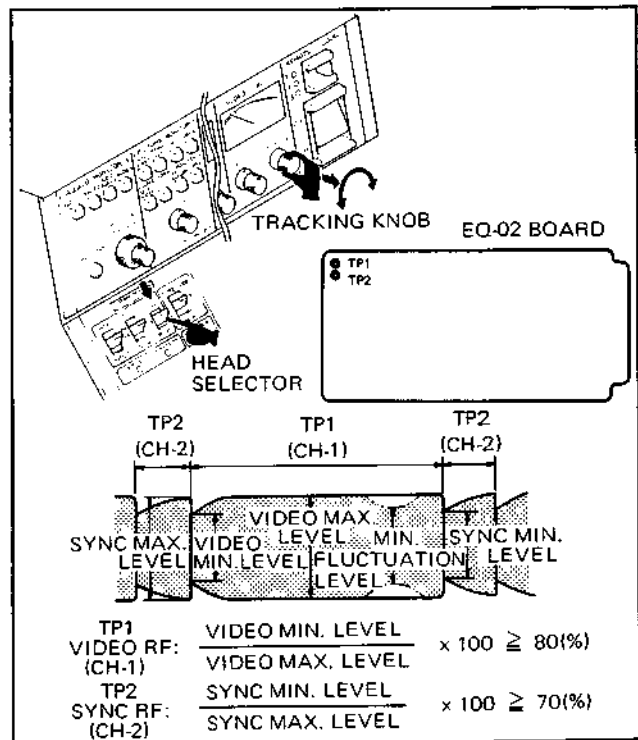

Fig. 10-11-1. Alignment Tape Playback Check
7. Check that the VIDEO and SYNC RF waveform show the specified value in Fig. 10-11-1.